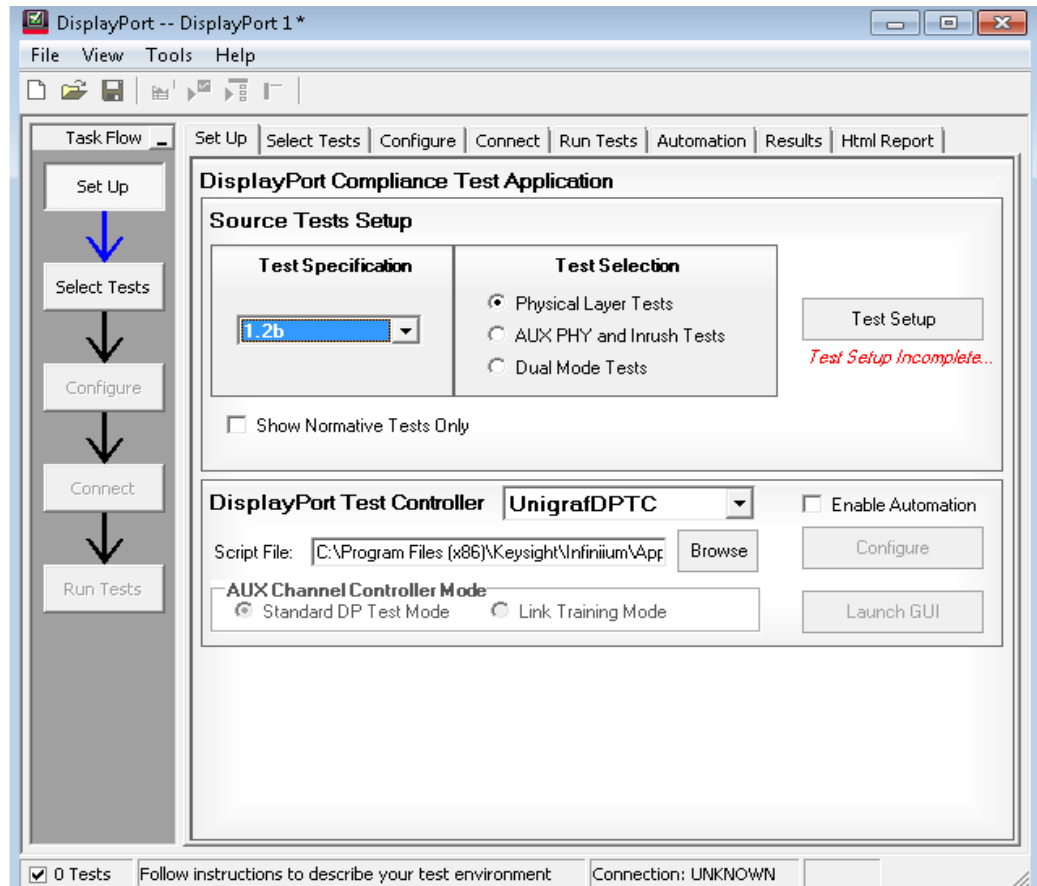

Figure 24 Set Up tab on the DisplayPort Compliance Test App
- 3 On the DisplayPort Compliance Test Application, click the **Set Up** tab (see Figure 24).